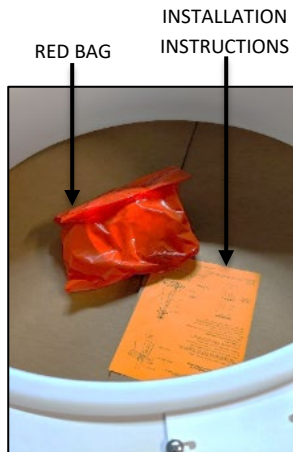

FIG. 4 RED BAG AND
3. INSTALLATION INSTRUCTIONS (shown in FIG. 4) - Please completely read the install instructions before starting installation.
4. RED BAG (shown in FIG. 4) contains below following items